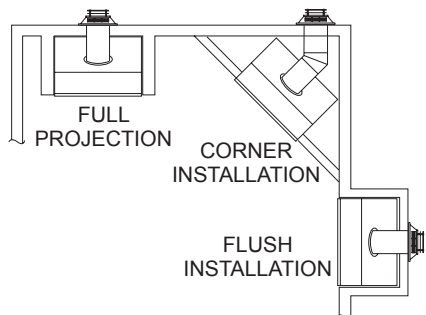

Figure 1 - Common Fireplace Locations
1. The location must allow for proper clearances (see Figure 1).